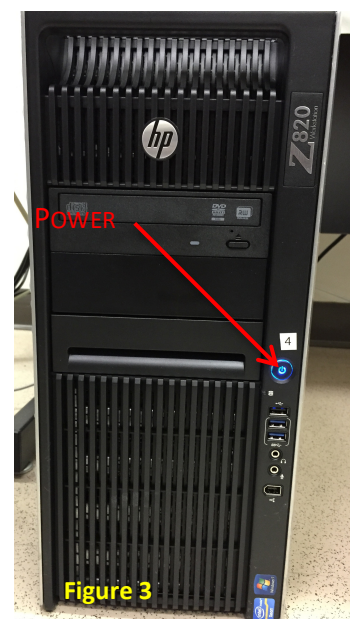

Figure 3
- i. Once the microscope is ready, turn on the PC (4) using the button on the front of the HP (figure 3). The computer is to the left of the monitor table. Note: the computer can be turned on independently from the confocal system for data transfer, etc.
- ii. Wait for the computer to start Windows (until it says Starting Windows or you see the Windows icon), then turn on Components (5) on the control box.